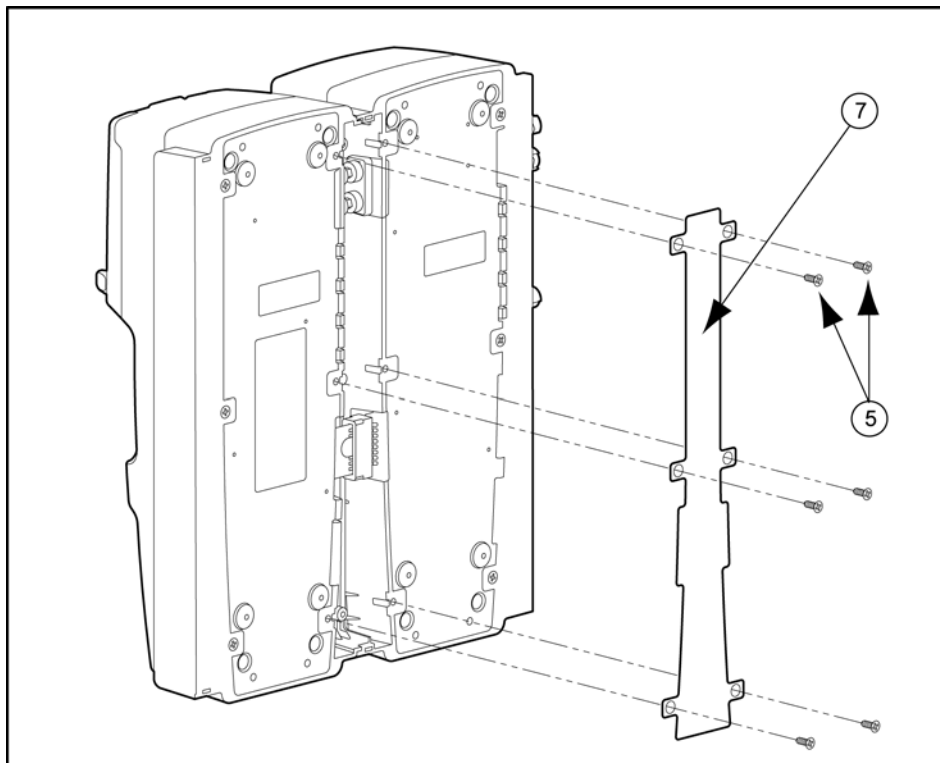

Figure 16. Attaching Back Cover Plate (Back View)
- Figure 16.,
20. Fasten the bottom cover plate to the space between the two docking modules using six Phillips flat-head screws. Refer to Figure 16.
To change the dipswitch setting on a GasAlertClip Extreme docking module refer to Tables 15 and 16, Figures 16 and 17, and complete the following: